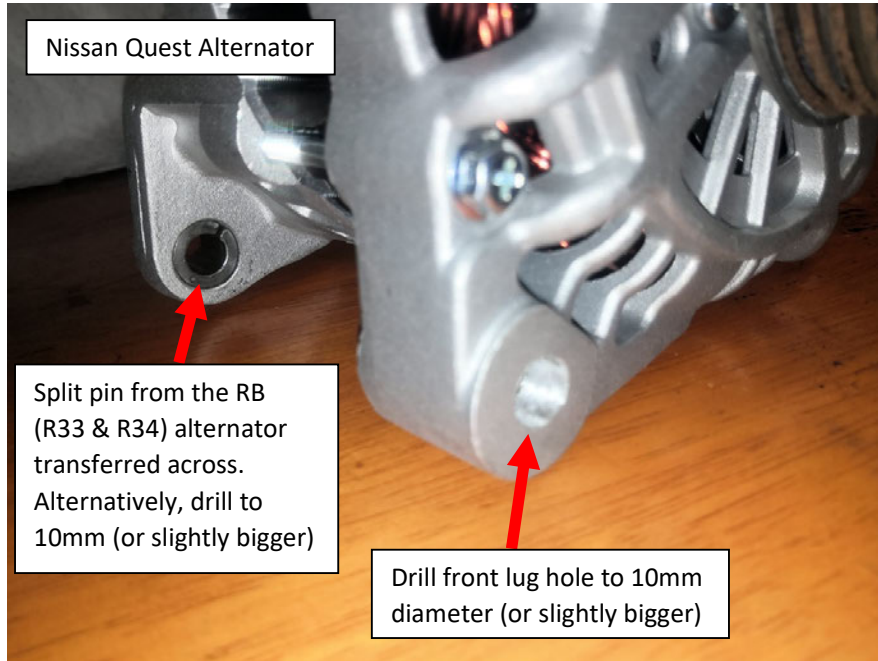

Figure 2 – Transfer OR Drill Split Pin and Drill Front Lug Hole
4. Knock out and transfer the split pin from your OEM RB alternator to the Nissan Quest unit (figure 2). Alternatively, you may drill the split pin that came with the Nissan Quest alternator to 10mm or slightly bigger.
5. Drill the Nissan Quest alternator mounting hole to 10mm diameter or slightly bigger (figure 2).